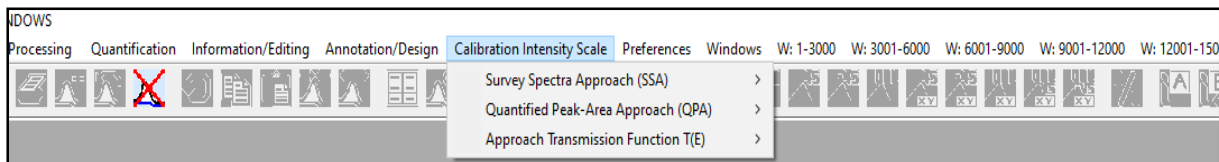

Fig. 1 Screen shot: Pull-down menu of the operation 'Calibration Intensity Scale'
a) The pull-down menu of the three methods of the $T(E)$ estimation were clearly separated (see Fig.1):